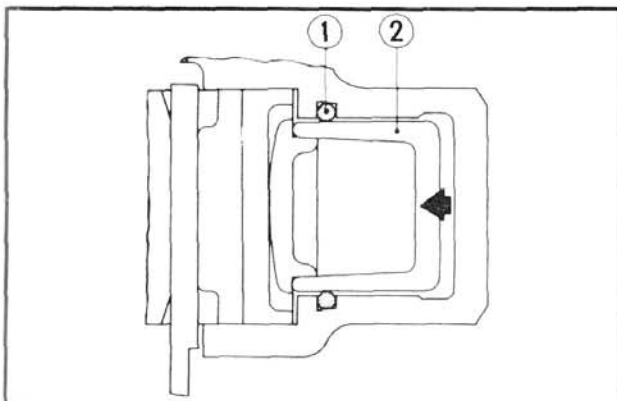

Fig. 14-2 ① Piston seal ② Piston
3. The clearance of 0.002~0.004 in (0.05~0.1 mm) between the disc and the pad to be consistent with the wear of the pad. When hydraulic pressure is applied against the back of the piston, the piston seal first deforms and as the piston moves further, the piston slides over the piston seal until the pad contacts the disc (Fig. 14-2). When the hydraulic pressure is released, the deformed piston seal will return to its normal shape, and consequently, pulls the piston away from the disc by the amount of the piston seal deformation.